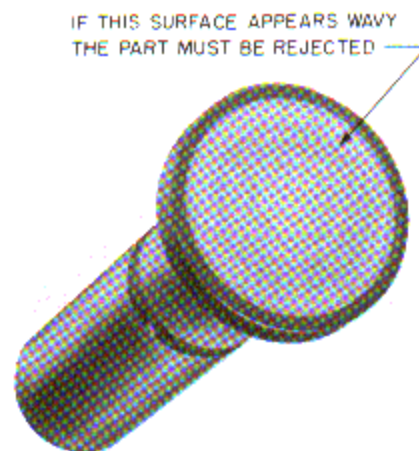

Figure 6-10. Circular Wear Pattern on Face of Hydraulic Tappet Body
c. Check face of the tappet body for circular wear patterns. The tappet body face may have circular discoloration due to rotation of the body but this is not cause for rejection. Circular wear patterns, give the surface of the face a wavy appearance and any hydraulic tappet body whose face shows indications of circular wear, must be rejected. (See figure 6-10.)